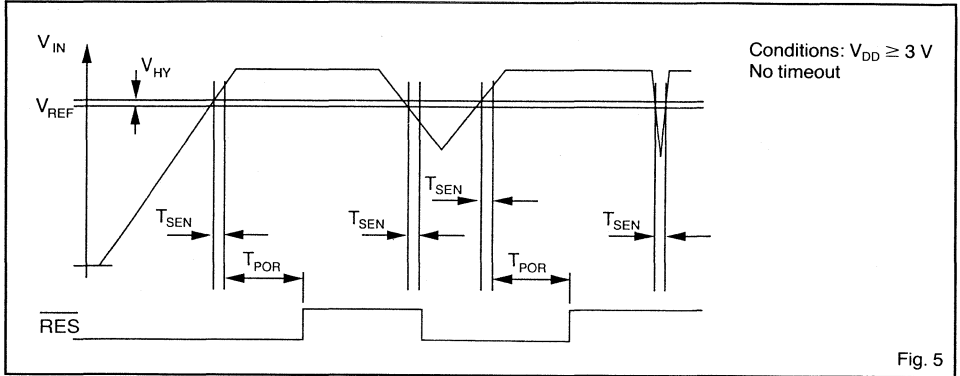

Fig. 5
1) The comparator reference is the power-down reset threshold. The power-on reset threshold equals the comparator reference voltage plus the comparator hysteresis (see Fig. 5).
At power-up the reset output ( $\overline{RES}$ ) is held low (see Fig. 5). When  $V_{IN}$  becomes greater than  $V_{REF}$ , the  $\overline{RES}$  output is held low for an additional power-on reset (POR) delay which is equal to the watchdog time  $T_{WD}$  (typically 100 ms with an external resistor of 115 k $\Omega$  connected at R pin). The POR delay prevents repeated toggling of  $\overline{RES}$  even if  $V_{IN}$  and the INPUT voltage drops out and recovers. The